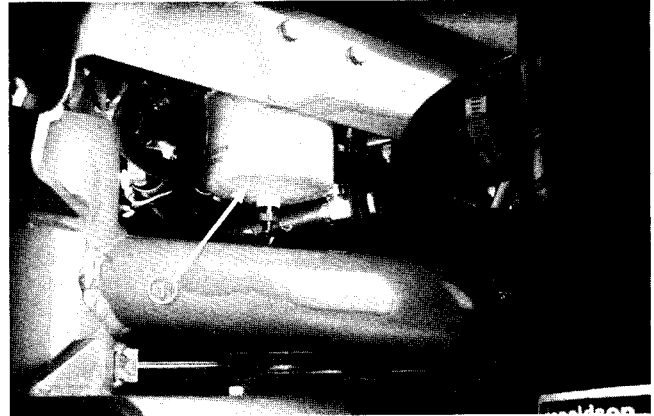

Figure 39
2. Loosen the air bleed screw on the fuel filter / water separator (Fig. 39).